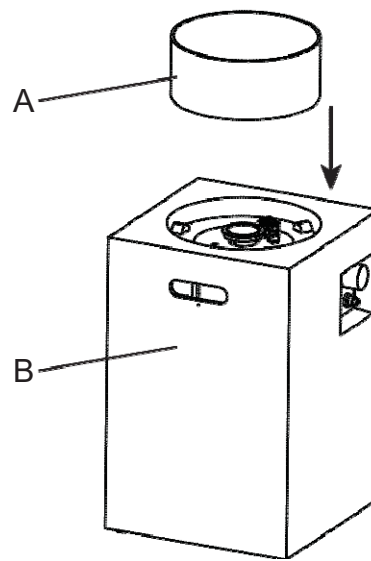

Figure 3
6. Insert the glass shield (A) into the supports at the top of the fire pit body (B) (see Figure 3).